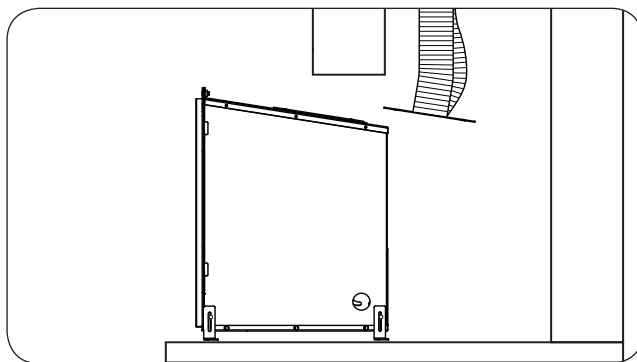

Fig. 26-1 Slightly slide in unit
1. Carefully slide the direct vent insert just inside of the fireplace opening, still allowing for access to the interior of the fireplace (see Fig. 26-1). Ensure the insert is properly supported during this entire process.